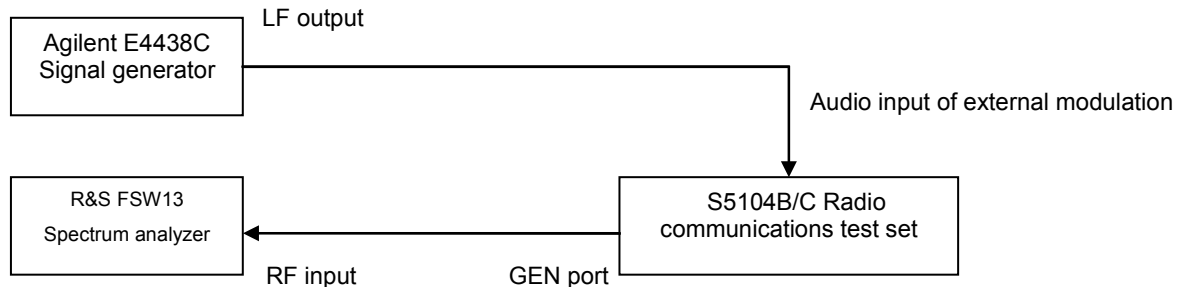

Fig. 6-9 Block diagram for external analog modulation characteristics test of RF signal generation
1) As shown in Fig. 6-9, connect the test instrument and set S5104B/C to the RF TX mode with the output frequency of 1.05 GHz and the amplitude of -10 dBm; select the modulation format to FM; select external audio as the modulation source and 100 kHz as the frequency deviation; set the spectrum analyzer to the analog demodulation mode, open the FM demodulation window, set the center frequency to 1.05 GHz and the demodulation bandwidth to 50 kHz; Set the LF output frequency of the signal generator to 20 Hz and the output amplitude to 200 mVP, and record the measured value of modulation rate to corresponding space in Table A.1;
1) As shown in Fig. 6-9, connect the RF input of the spectrum analyzer to the GEN port of S5104B/C, set S5104B/C to the RF TX mode with the output frequency of 1.05 GHz, the amplitude of -10 dBm, the modulation format of BPSK, the code element rate of 1 MHz, the filter of RRC, the  $\alpha$  factor of 1.0, and the data source of PN9;